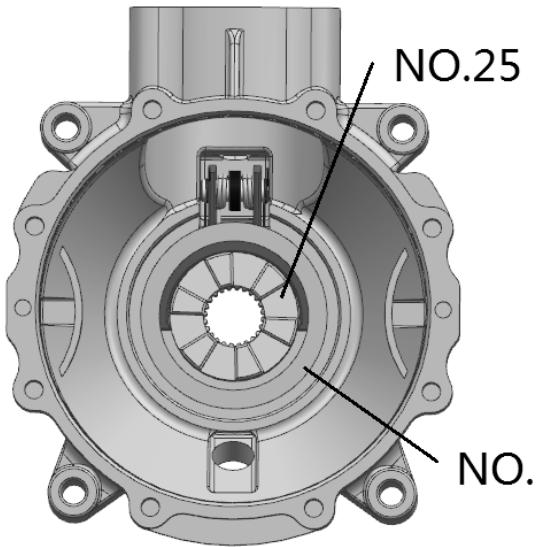

Fig 16
- 7. Install the clutch gear (NO.25) and the original shims into the gearcase. → Fig 16